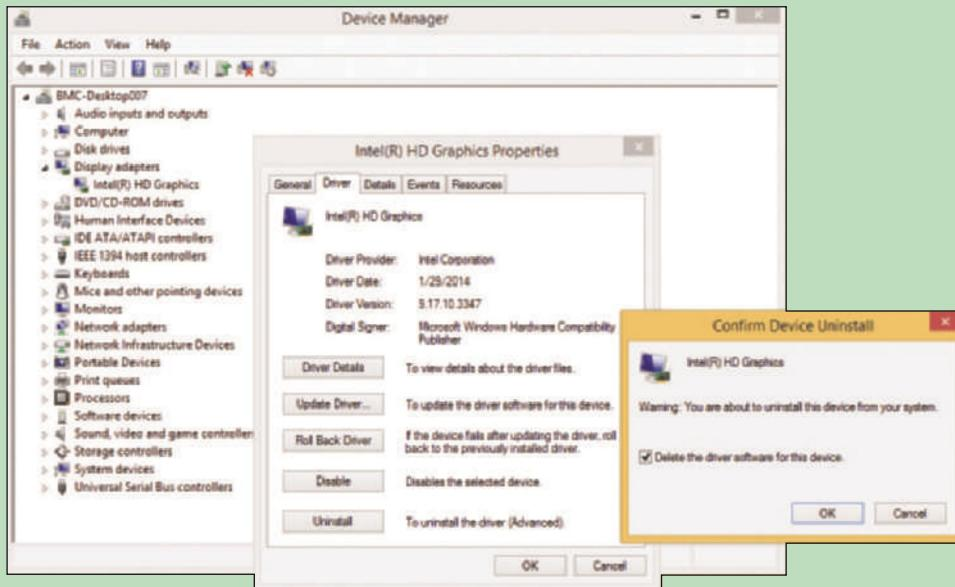

Figure 5-36 Use Device Manager to uninstall the drivers and delete the driver store for a device
2. Right-click the device and click **Properties** in the shortcut menu. Click the **Driver** tab and click **Uninstall**. In the Confirm Device Uninstall box, check **Delete the driver software for this device**, and click **OK**. See Figure 5-36. The installed drivers and the driver store are both deleted. When you reinstall the device, you'll need the drivers on CD or downloaded from the web.